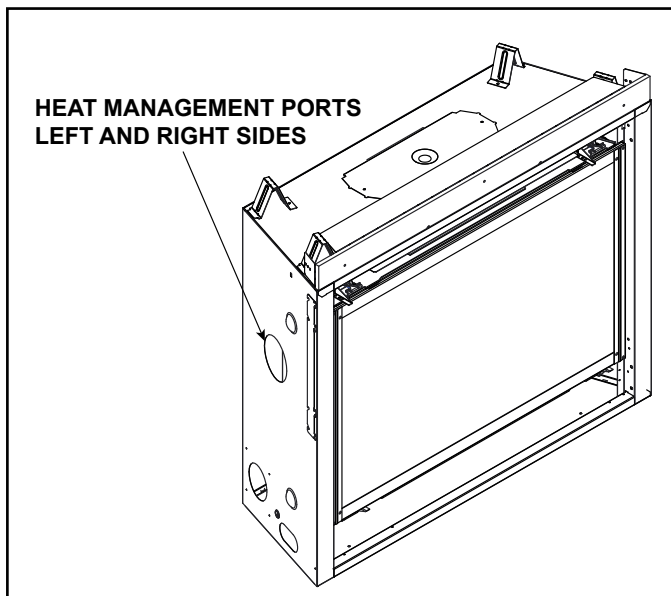

Figure 6.17 Heat Management Port Locations
- Locate the heat management ports on the left and right sides of the appliance. One or two Heat-Zones® or one Heat-Out-Gas kit may be installed. See Figure 6.17. Remove the knockouts from the appliance with a tin snips.